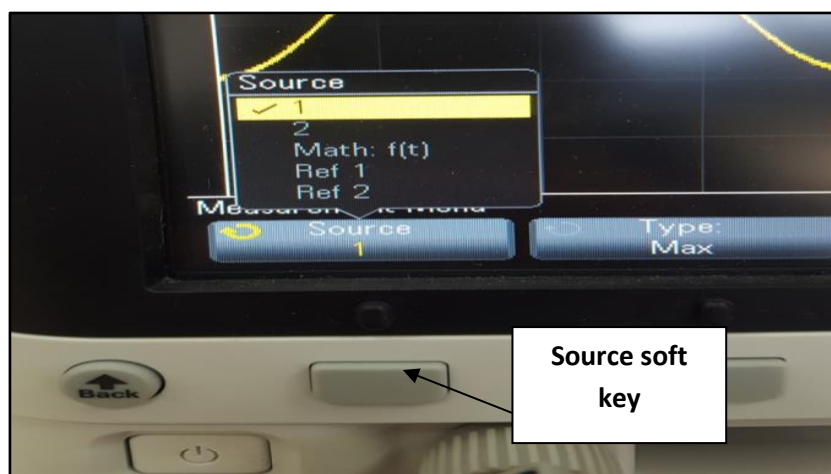

Figure 24: Source softkey description
- Select Source '1' and the parameter type you want to measure by rotating the entry knob as shown in figure 24.